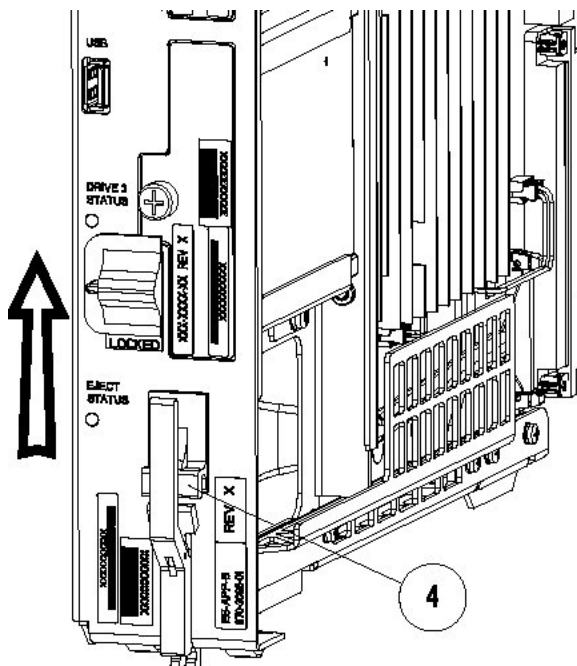

Figure 41: E5-APP-B Card Eject Hardware Switch, UNLOCKED
1. On the APP-B card, slide the Eject switch (4) up to the UNLOCKED position (see Figure 41: E5-APP-B Card Eject Hardware Switch, UNLOCKED).